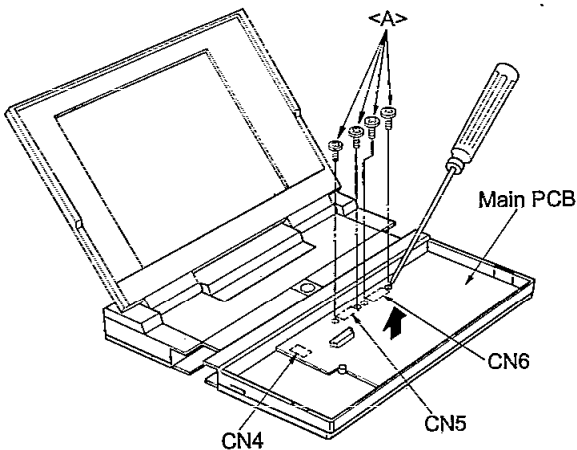

Figure 16A
- (1) After removing the keyboard, remove four screws <A> ($\text{Ø}2 \times 8 \text{ mm}$).
- (2) Detach the Main PCB taking care of the connectors (CN4, CN5, and CN6) as shown in Figures 16A and 16B.